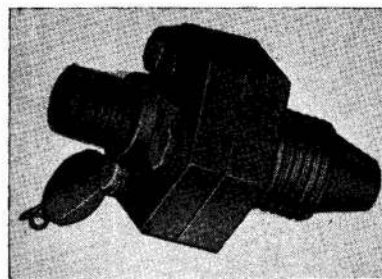

Fig. 9. Liquid oxygen check valve
24. The liquid oxygen check valve (Ref. No. 6D/2910) (803000) is identical in principle and application to other versions of this valve, but differs in the arrangements for pipeline connections. No. 1 connection consists of $\frac{1}{8}$ in. A.N.T.P. tapered screw thread, which screws into a tee-piece integral with the container. No. 2 connection is A.G.S. size "BB" to suit $\frac{5}{16}$ in. O.D. pipe to the supply line. This check valve is similar to that shown in fig. 9.▶